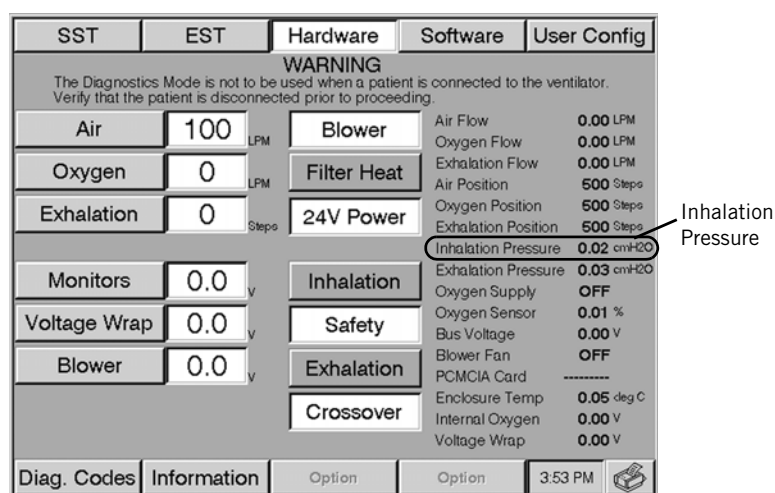

Figure 13-54: Hardware Screen in Diagnostics Mode, Inhalation Pressure reading
6. Set the air flow to 100 LPM. Record what the inhalation pressure sensor is reading. See Figure 13-54.
7. Attach the filter to the end of the length of 22 mm I.D. tubing and again record the inhalation pressure sensor reading. See Figure 13-54.